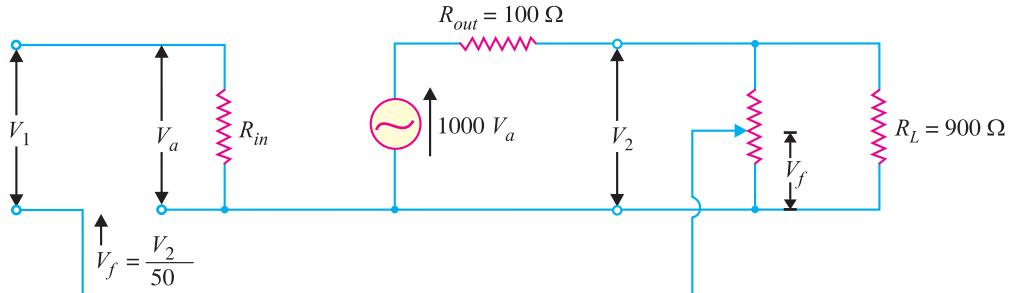

Fig. 13.5
**Solution.** Fig. 13.5 shows the equivalent circuit of an amplifier along with the feedback circuit.